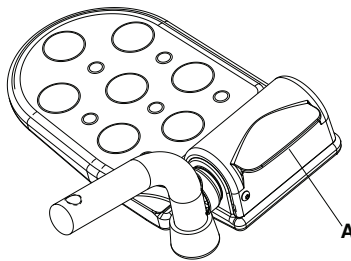

Figure 4 – Flip-up footrest lever
4. Using your foot, lower the flip-up footrest to the transport position by lifting up on the footrest lever (A) (Figure 4).